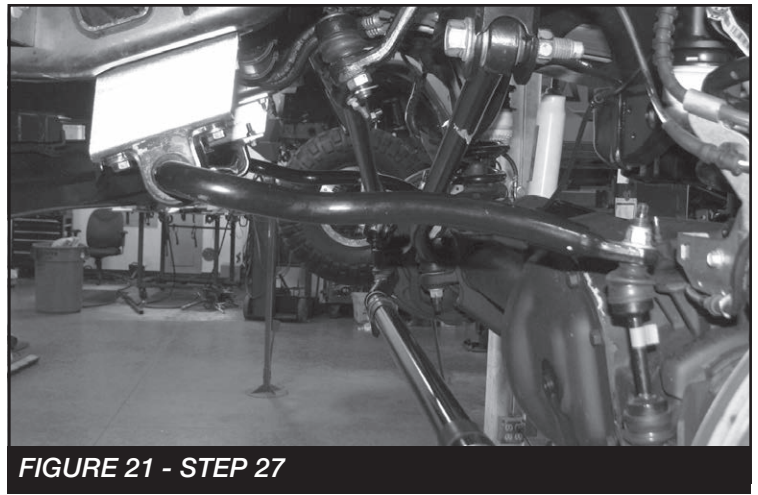

FIGURE 21 - STEP 27
27. Install FT3400-112P (Driver) & FT3400-112D (Passenger) Sway bar drop brackets using the factory hardware. Reinstall the front sway bar to the end links using the supplied 7/16" hardware torque all hardware to 83 ft-lbs. Reconnect the sway bar to the endlinks. Torque to 52 ft-lbs **SEE FIGURE 21**